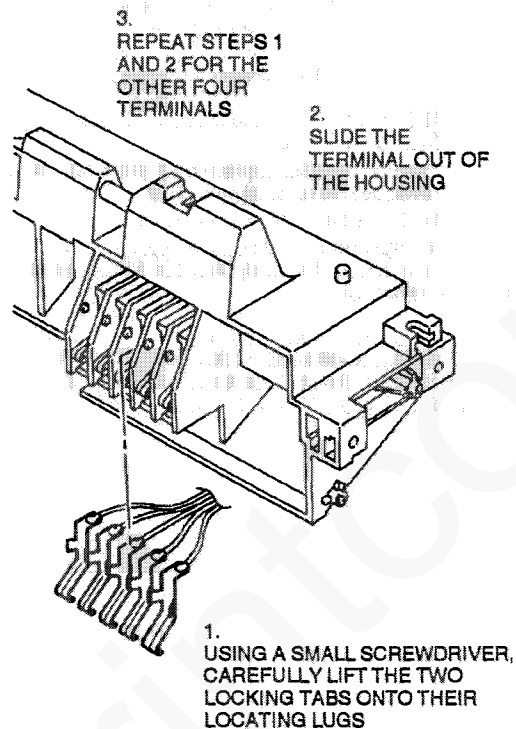

Figure 2. Developer unit terminal removal
3. (Figure 2) Remove the developer unit terminal assembly.